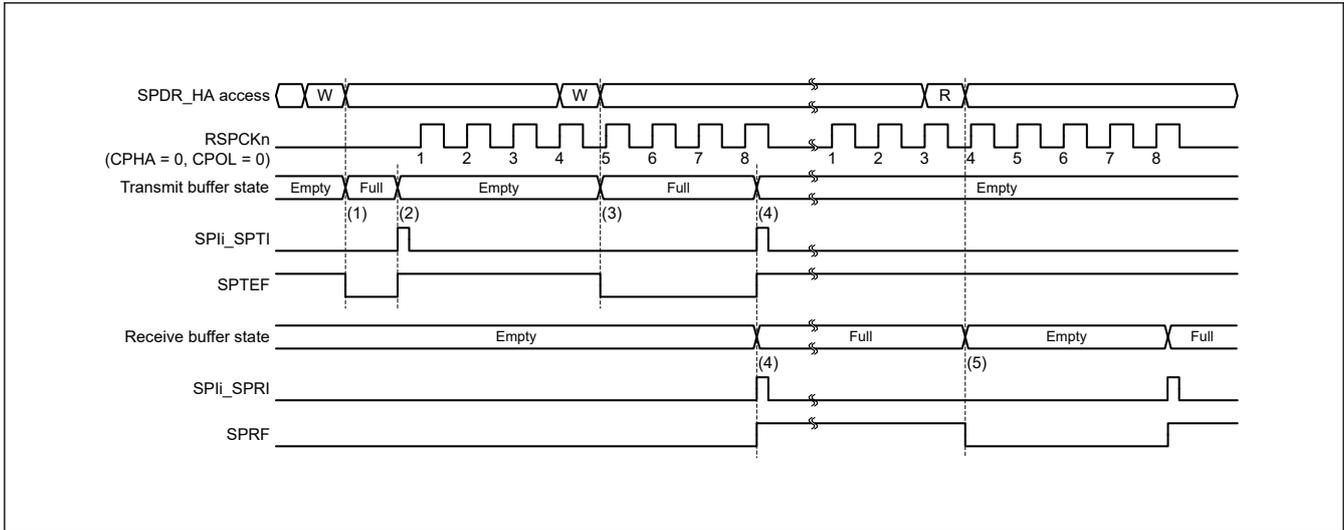
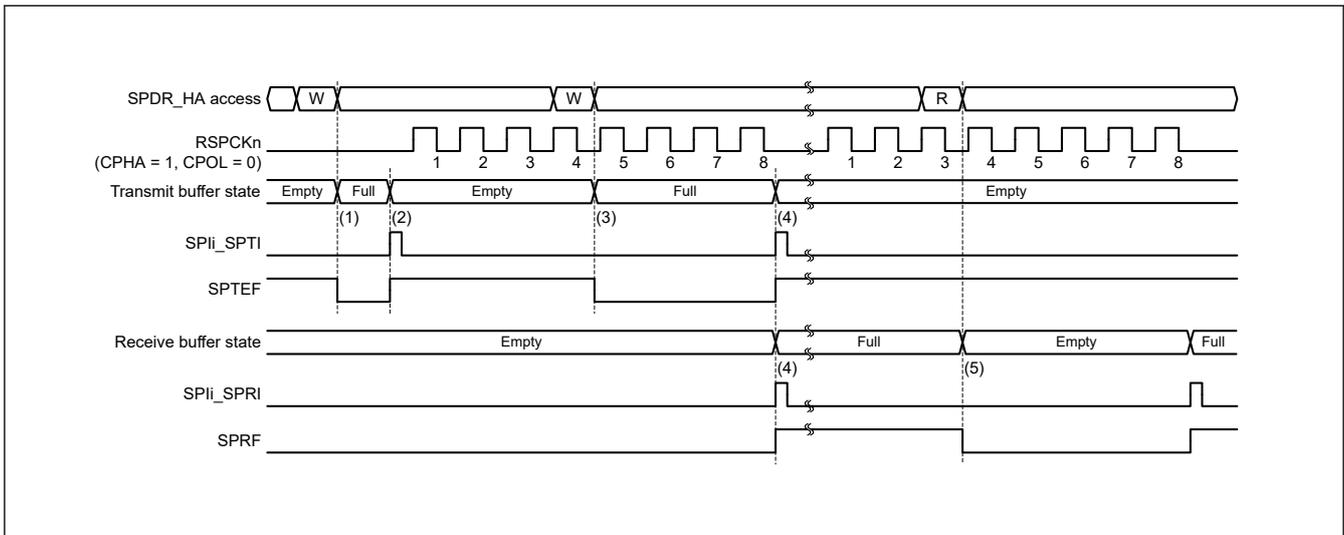

Figure 27.25 Operation example of the SPIi_SPTI and SPIi_SPRI interrupts when CPHA = 0 and CPOL = 0 in master mode
Figure 27.26 Operation example of the SPIi_SPTI and SPIi_SPRI interrupts when CPHA = 1 and CPOL = 0 in master mode
Figure 27.25 and Figure 27.26 show examples of operation of the transmit buffer empty interrupt (SPIi_SPTI) and the receive buffer full interrupt (SPIi_SPRI). The SPDR_HA register accesses shown in these figures indicate the conditions of access to the register, where W denotes a write cycle and R a read cycle. In Figure 27.25, the SPI performs an 8-bit serial transfer when SPCR.TXMD bit is 0, the SPCMD0.CPHA bit is 0, and the SPCMD0.CPOL bit is 0. In Figure 27.26, the SPI performs an 8-bit serial transfer when SPCR.TXMD bit is 0, the SPCMD0.CPHA bit is 1, and the SPCMD0.CPOL bit is 0.
The operation of the SPI at timings (1) to (5) in Figure 27.25 and Figure 27.26 is as follows: